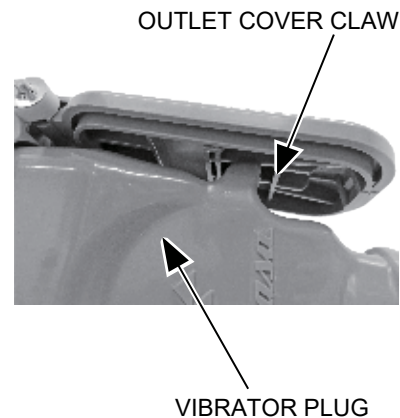

Figure 7. Output Outlet Cover Claw
- Check to see if the output outlet cover claw is properly engaged into the male plug, and it does not come off when pulled lightly (Figure 7).